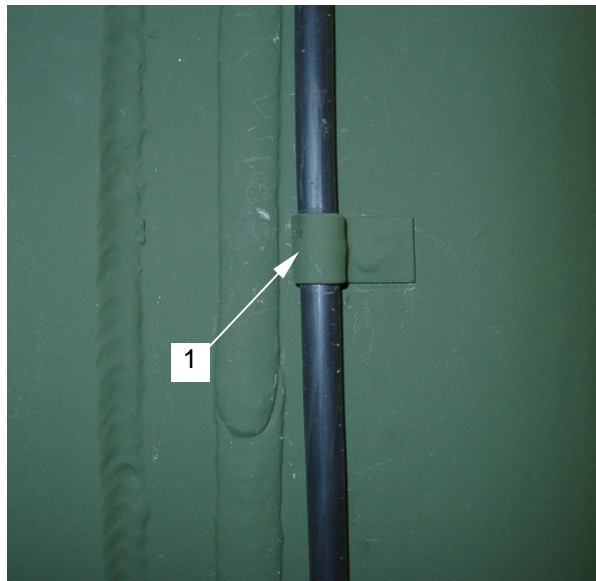

Figure 15. Wire Clamp
23. Install wire into wire clamps (figure 15, item 1) on the side of the trailer.